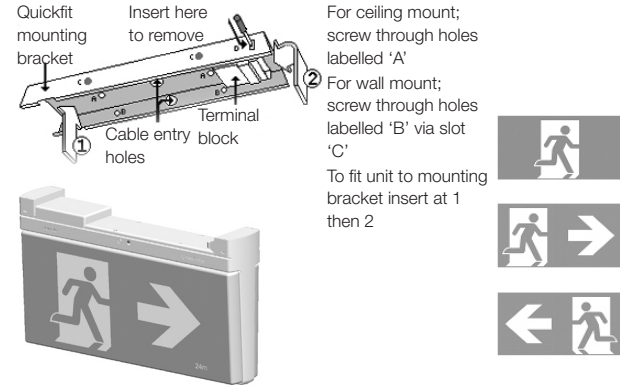

Figure 2: Quickfit insertion diagram and internal view
- Take the mounting bracket and whilst holding it into place against the ceiling or wall, use a pencil to mark the position of the screw holes (at A or B in figure 2) and cable entry position through the bracket onto the ceiling or wall as appropriate. Make sure to allow at least 50mm of free space to the right hand side of the final location of the unit to allow for the sliding function of attaching the unit to the mounting bracket. If need be, turn the bracket around and swap the diffuser with the back plate to permit room for inserting and removing the unit from the mounting bracket. Orient the bracket in such a way as to make the LED and push button readily visible and accessible when the unit is installed.
- Attach the unit to the mounting bracket by aligning the top left hand end of the unit (the end without the protruding electrical connecting metal lugs) with the large cut-away slot towards the left hand end of the bracket. Slip the left hand end of the unit up into the slot in the left hand end of the bracket (step (1) in figure 2) and hold the unit horizontal to and parallel with the bracket. It should be approximately 50mm to the right of its final destination. Simply slide the unit (step (2) in figure 2) 50mm to the left along and into the bracket to engage the connections and the locking tab. Once in place, the unit cannot be removed from the bracket without the use of a tool (a small screwdriver) to push in the locking tab at 'D' in figure 2. Ensure the correct pictograph inserts have been attached to the diffuser assembly.
- Gently insert a small screwdriver into the slot (at 'D' in figure 2) on the front of the bracket towards the right hand end of the fitting, to ease the locking tab into the fitting and away from the bracket.